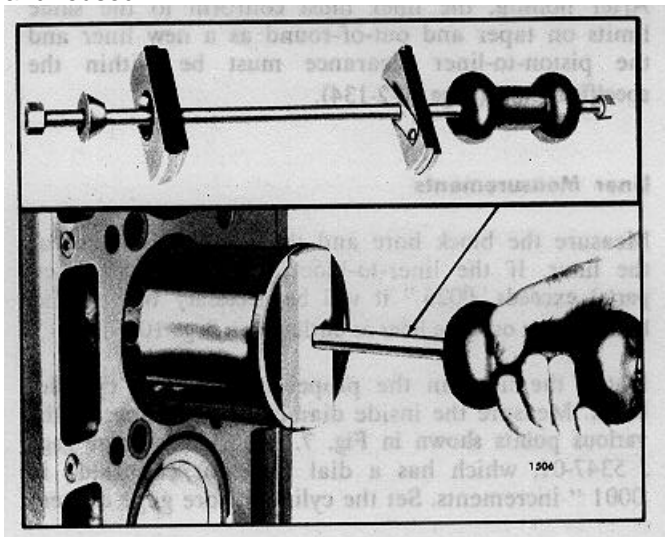

Fig. 3. Removing Cylinder Liner.
- b. With the tool in place, strike the upset head on the upper end of the puller rod a sharp blow with the puller weight, thus releasing the liner (Fig. 3).